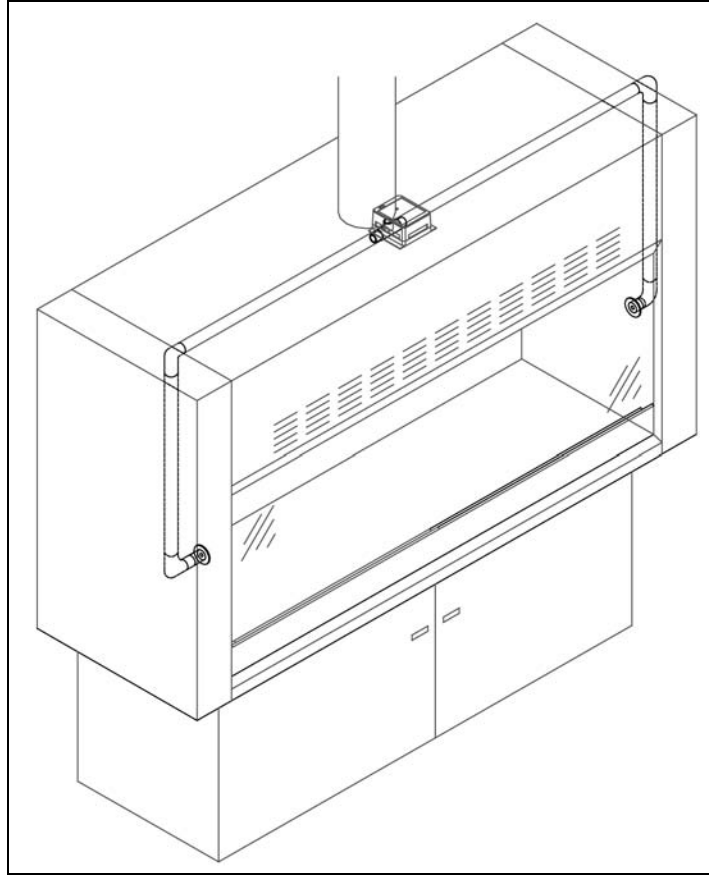

Figure 4: Typical Installation
- Step 1: Select location of SENSOR ASSEMBLY, typically lying on top of the fume hood (Figure 4). SENSOR ASSEMBLY must be located to reference room air, within 15 ft of the controller. If using an existing velocity sensor, see back of this sheet for sensor assembly.
WARNING: Both sides of tubing must be of equal length. (Figure 4).